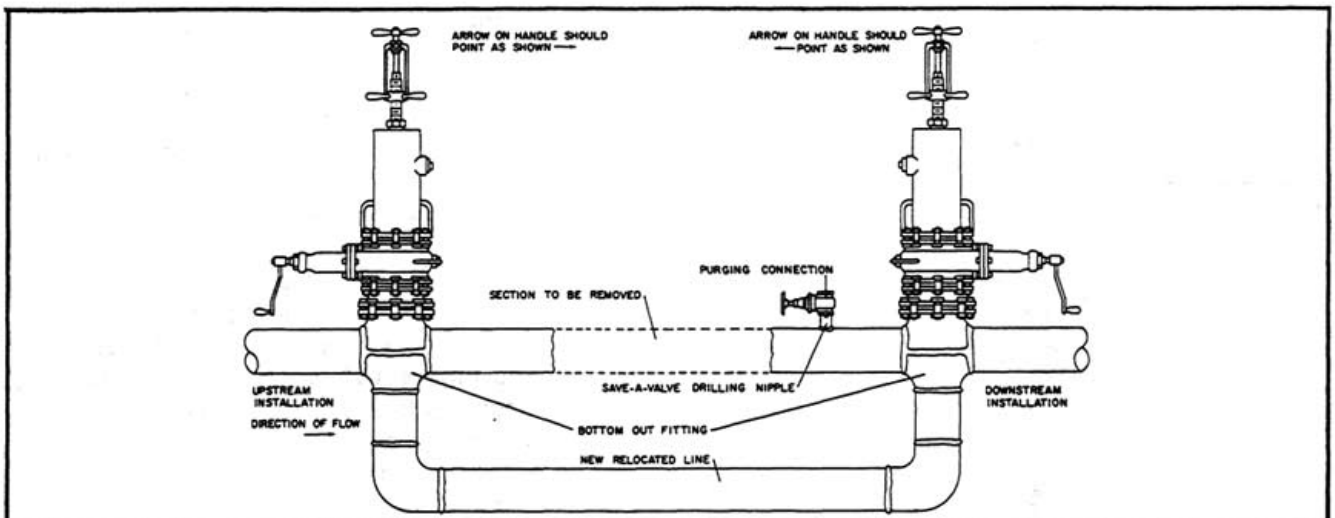

FIGURE 18A
4. See **Figure 18A** when using two stopping machines to isolate a section of pipe using bottom-out fittings and bottom-out line.
- If using bottom-out fittings and bottom-out line (**Figure 18A**), the new bottom-out line serves as the by-pass line and is already purged of air and in operation.